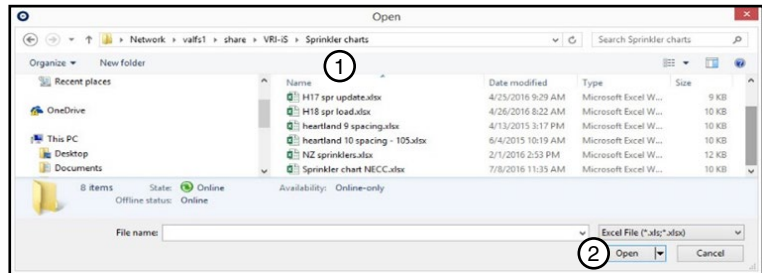

Figure 9-2 1. Excel Files 2. Open
- Import from Excel. To do this select the Import button and find the Excel file and select Open. See Figure 9-2. The Excel file consists of Sprinkler numbers in column A and Distance (ft) from center in column B. See Image 9-3. In the Irrigation Sprinkler section the Number of Sprinklers is filled in, the SID (Sprinkler ID), and Distance (ft). See Figure 9-4. Note: This will also fill in Pivot Length with the last sprinkler location in the Pivot Description section of the screen. Refer to Pivot description section for more information.